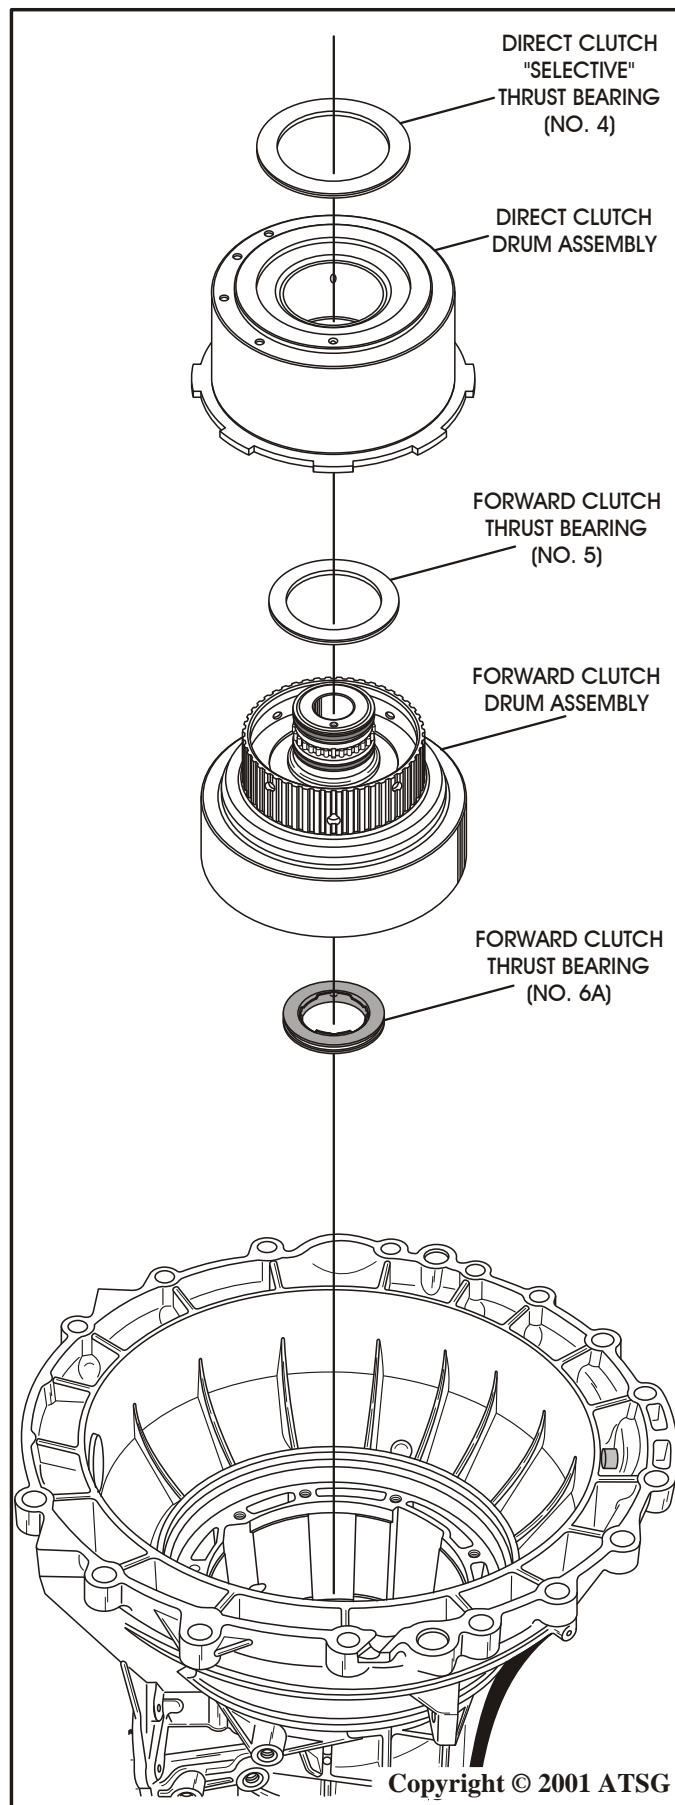

Figure 46
47. Remove and tag for I.D. direct clutch (No. 4) **selective** thrust bearing, as shown in Figure 46.
48. Remove the direct clutch housing assembly and set aside for component rebuild, as shown in Figure 46.
49. Remove and tag for I.D. forward clutch (No. 5) thrust bearing, as shown in Figure 46.
50. Remove the forward clutch housing assembly and set aside for component rebuild, as shown Figure 46.
51. Remove and tag for I.D. the forward clutch (No. 6A) thrust bearing (See Figure 46).